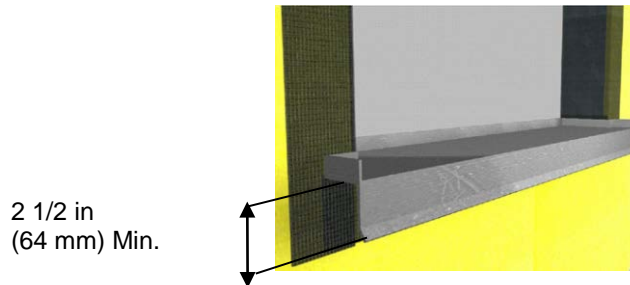

Figure 7
- a. Install a watertight pan flashing at all sill locations - Figure 7.
- c. The flashing shall extend a minimum of 2 1/2 in (64 mm) down over the face of the Outsulation X System - Figure 7.